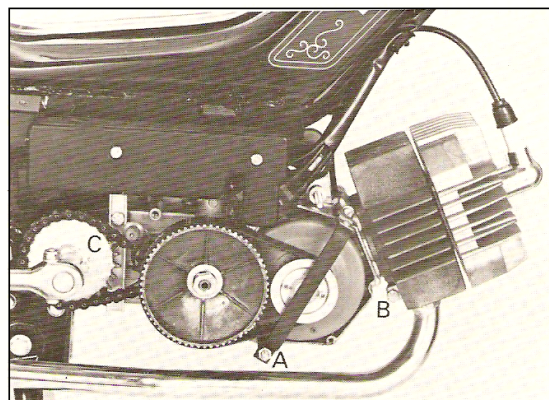

fig. 2
- demount the starter leaf spring by loosening the adjusting nut A (fig. 2) on the bottom side. Pull the starting cable out of its holding on the crankcase (upperside).
- Loosen the bolt B (fig. 2) of the exhaust tube clamp and also demount the exhaust silencer clamp to the rear. Remove the exhaust tube from the cylinder by turning it to and fro and, at the same time pulling it off from the cylinder.